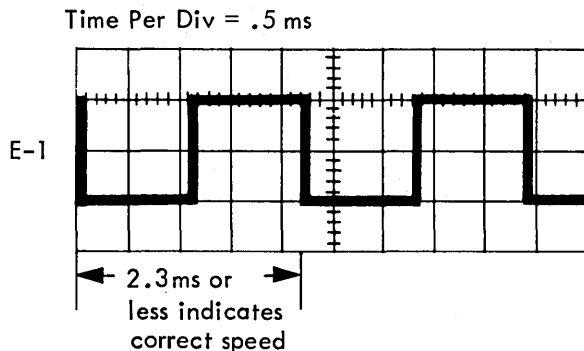

Figure 1-48. High Speed
1. High-speed skip (Figure 1-48). (4.14.4)